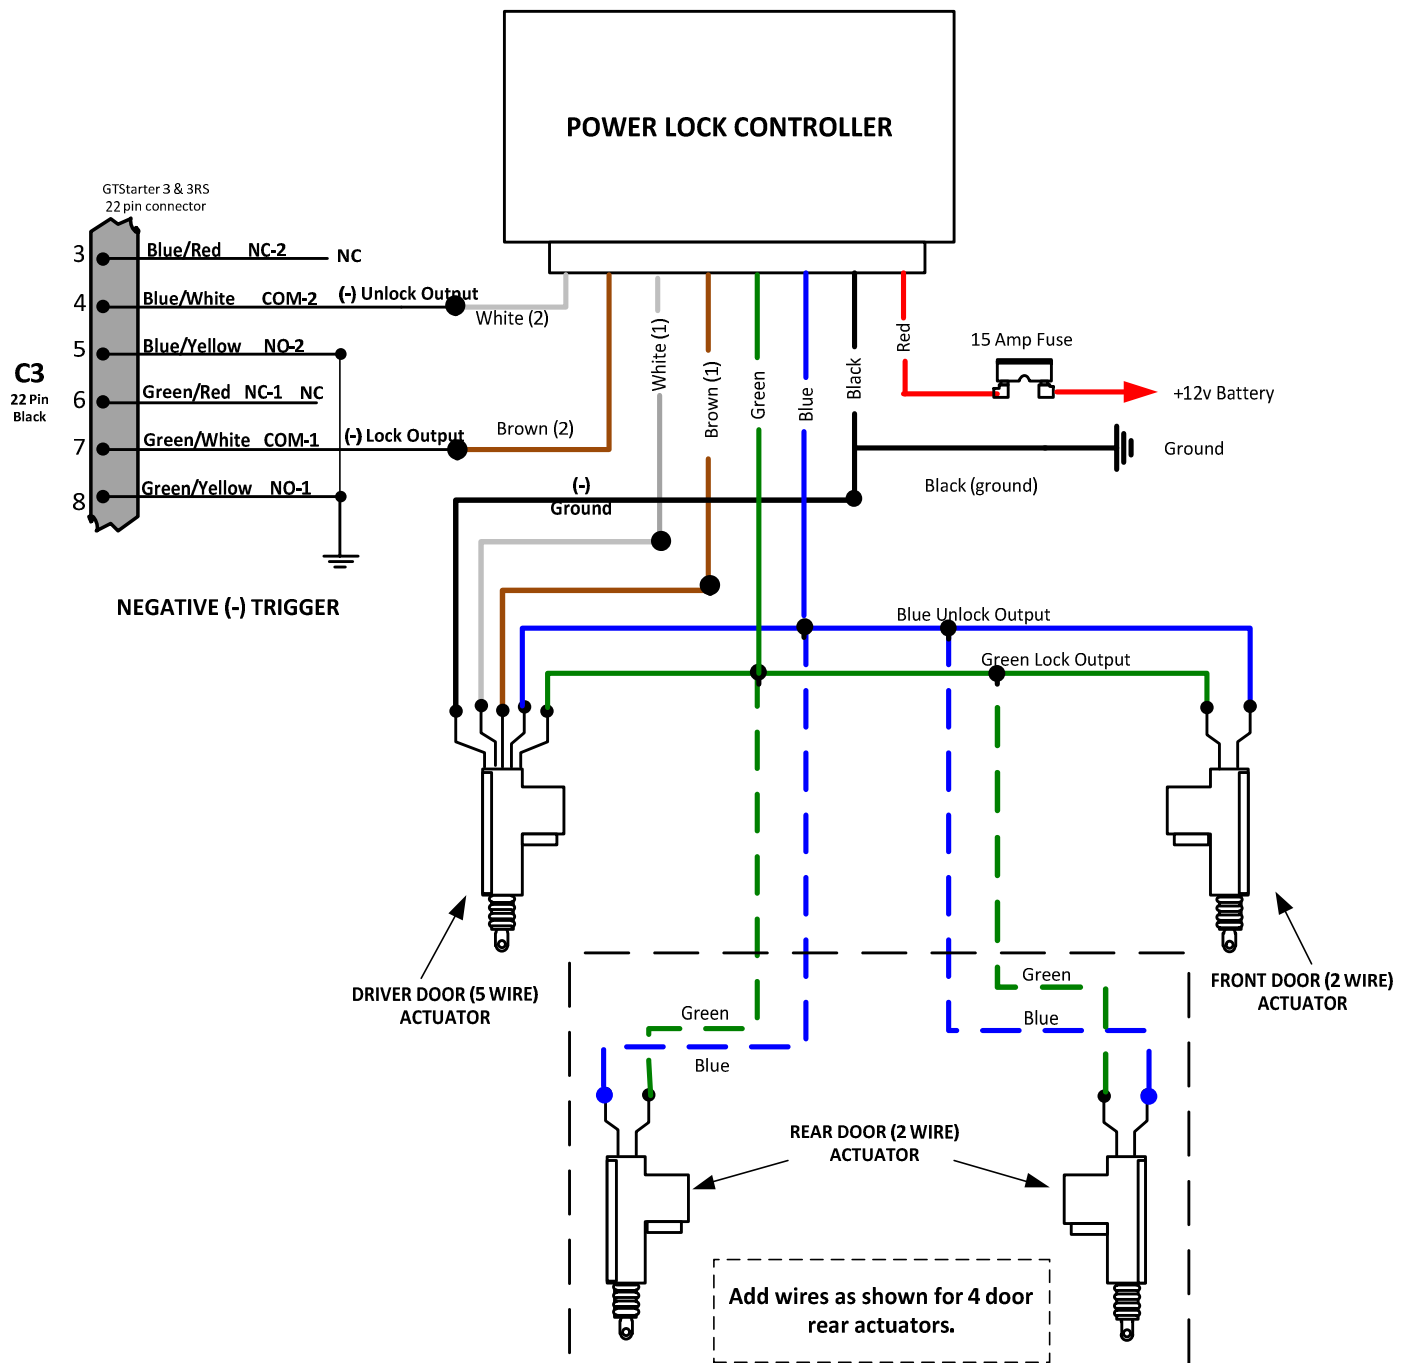

Fig. 5 WIRING DIAGRAM
3. When connecting the front door (5-wire) actuators and the wire harness together, make sure to connect the same color wires together. See Fig 5.
- b.) Make sure the WHITE, BROWN, BLUE & GREEN wires of the actuator, wire harness and control module are connected with the same color wires. See Fig 5.